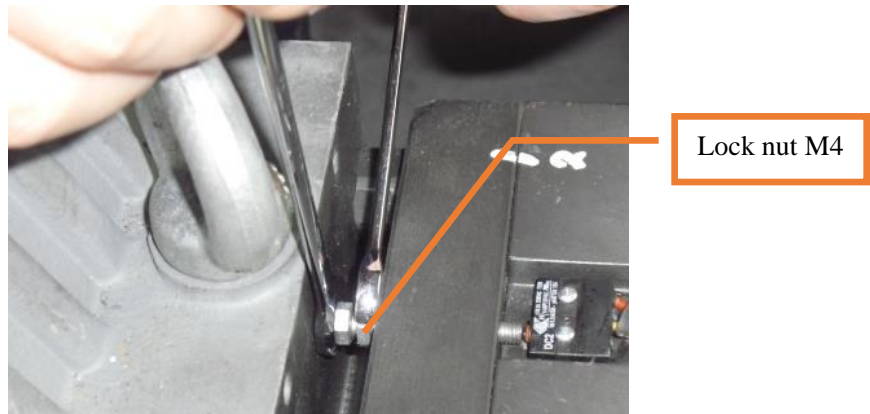

Figure 31: Tighten lock nut
5. Use open end wrench 8mm to hold the bolt M4x50 steady and then use another open end wrench 8mm to tighten the lock nut M4. See Figure 31.